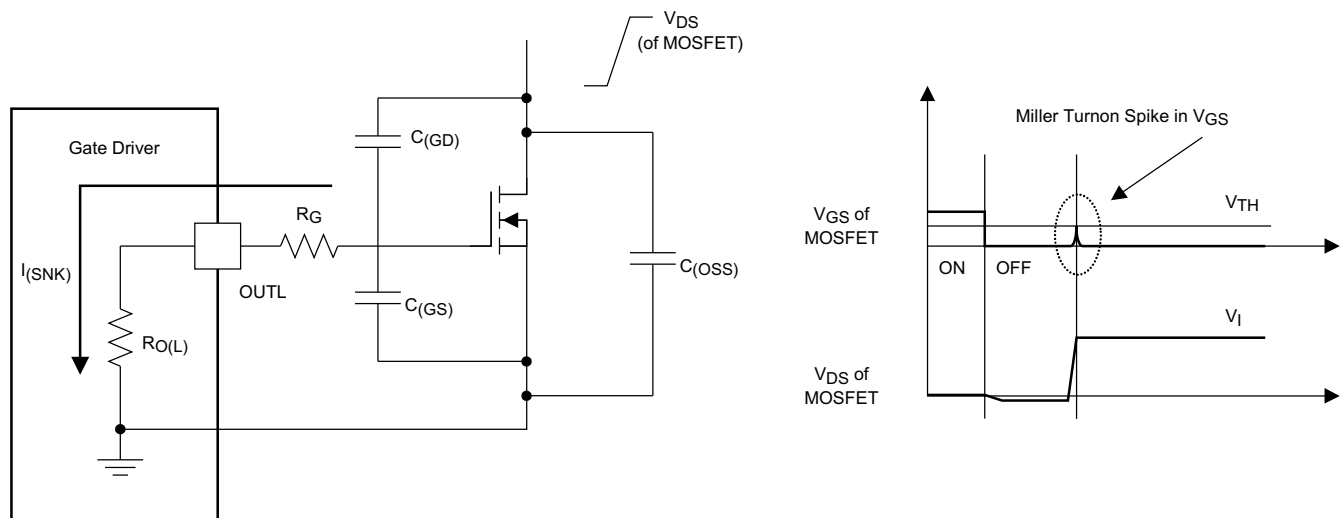

図 6-6. Very-Low Pulldown Impedance in UCC27511A, 4-A and 8-A Asymmetrical Drive (Output Stage Mitigates Miller Turnon Effect)
An example of a situation where the Miller turnon effect is a concern is synchronous rectification (SR). In an SR application, the dV/dt occurs on the MOSFET drain when the MOSFET is already held in off state by the gate driver. The current discharging the $C_{(GD)}$ Miller capacitance during this dV/dt is shunted by the pulldown stage of the driver. If the pulldown impedance is not low enough then a voltage spike can result in the V_{GS} of the MOSFET, which can result in spurious turnon. This phenomenon is shown in FIG 6-6. The UCC27511A device offers a best-in-class, 0.375- Ω (typ) pulldown impedance boosting immunity against Miller turnon.